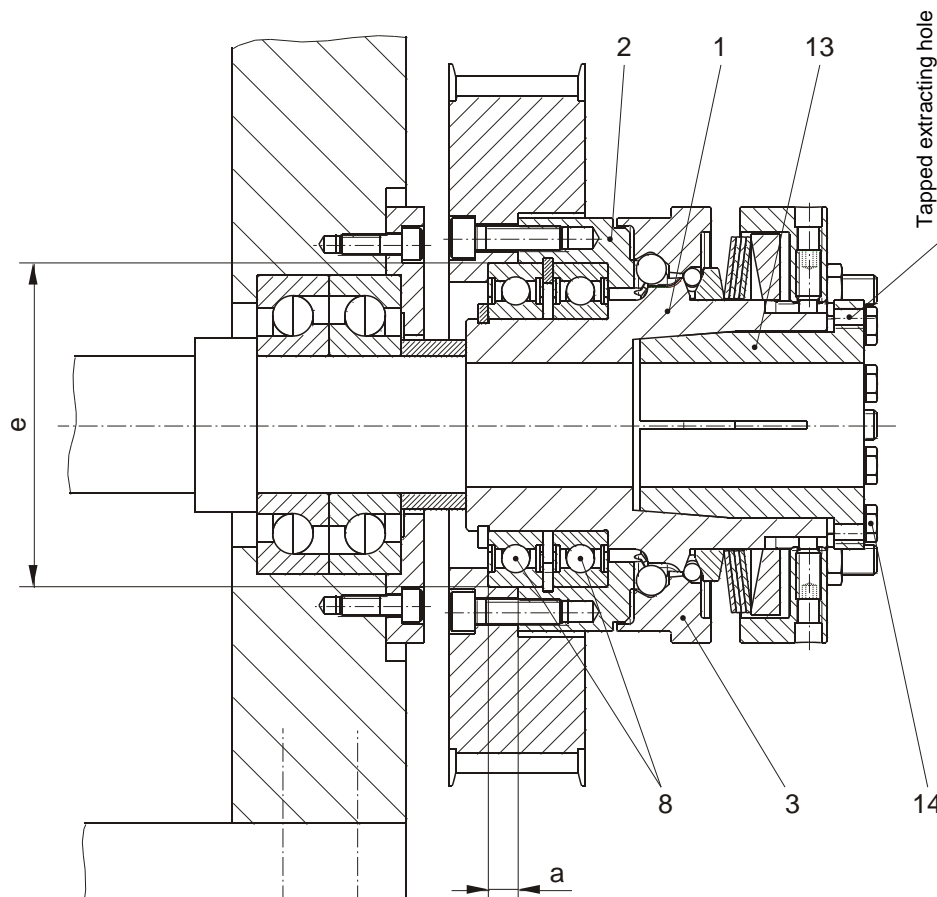

Fig. 11
Installation of the Output Elements (Fig. 11)
In order to prevent the output element (pressure flange (2)) from moving axially in the direction of the thrust washer (3) during overload, please make sure that the bearing of the output element is designed as a locating bearing (Fig. 11).
Please observe the connection dimensions "a" and "e" for the output elements (Fig. 11 and Table 10).